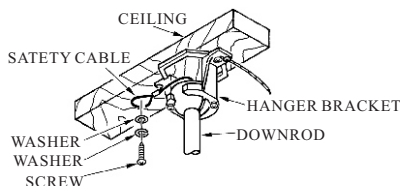

FIG.7
3. Install the safety cable into the building structure. (See fig.7)